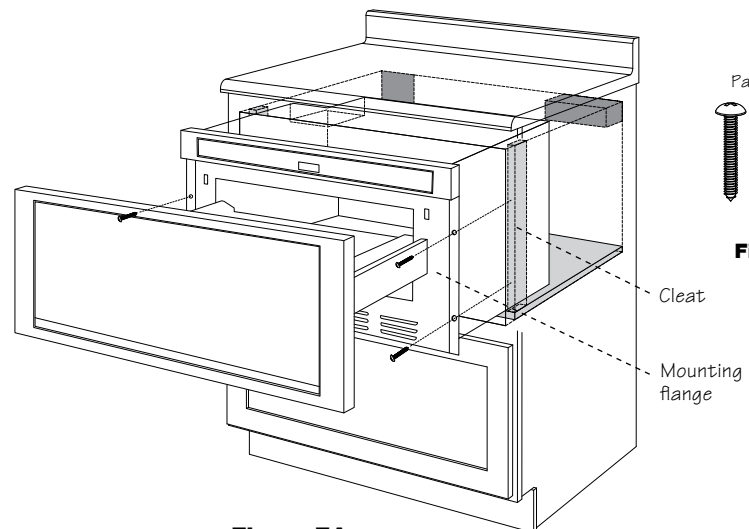

Figure 7A
3. Slide the drawer all the way until the mounting flange makes contact with the face of the cabinet for standard installation or side cleats for flush installation. See Figure 7A.
4. Open the drawer. Using the 4 holes on the drawer as a template, pre drill the cabinet using a 1/16" bit. See Figure 7A.